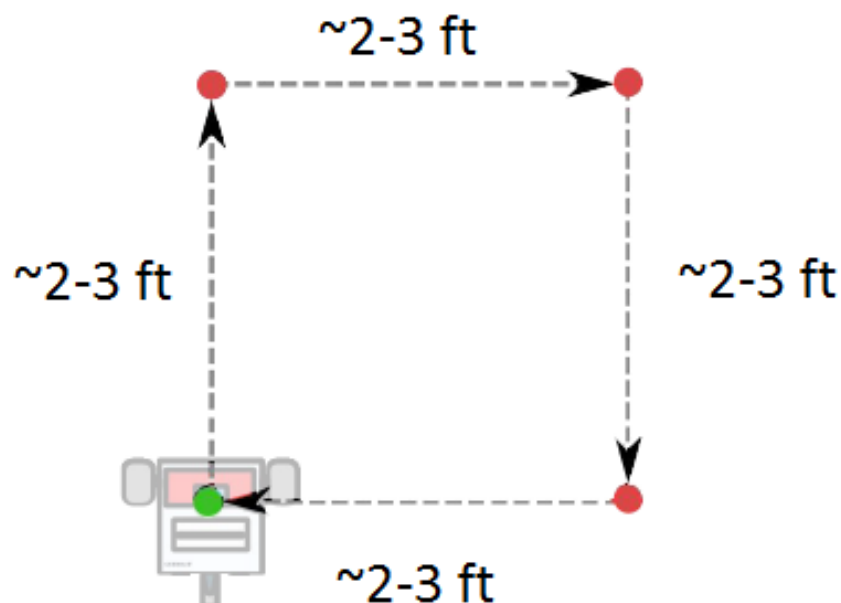

Figure 6: Square Robot Motion
1. Write a program to move the robot in a square path with sides between 2 and 3 feet (see Figure 6).